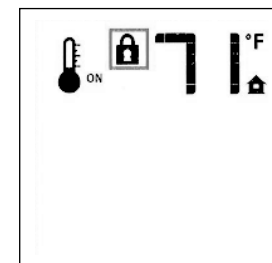

Figure 72. Lock ON.
- To activate the Lock, press the Mode key and UP Key at the same time. Fig. 72.